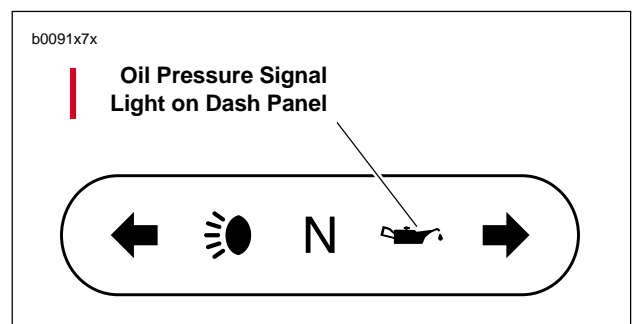

Figure 1-8. Oil Pressure Signal Light
12. See Figure 1-8. Start engine. Verify that oil pressure signal light on dash panel turns off when engine speed is 1000 RPM or above.